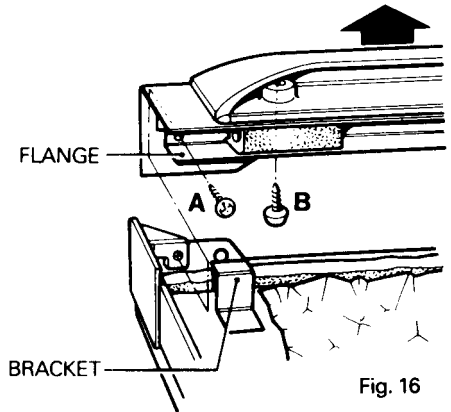

Fig. 16
3. Place the door on a flat surface and remove the two screws (A) at each end of the handle, found inside the extrusion (see Fig. 16).
5. Gently ease the door handle/trim assembly away from the door lining to remove (see Fig. 16).
6. Unscrew four retaining screws (B) holding the handle to the trim (see Fig. 16).